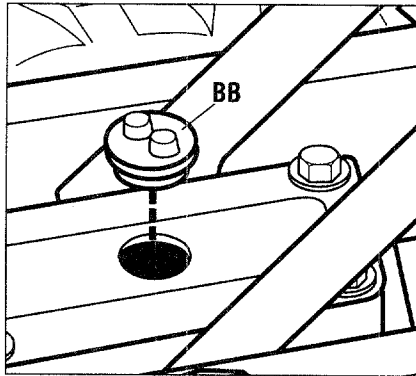

Fig. 2-9: Remove gear oil fill plug.
2. Remove the plastic fill plug (BB, Fig. 2-9) from the transmission housing and look into the filler hole.